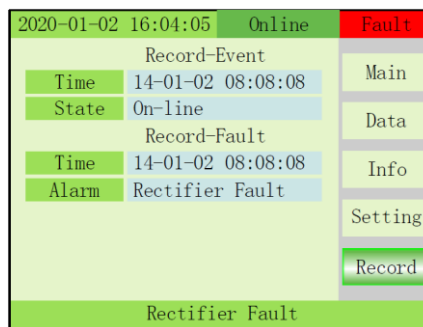

Fig. 3-21 **Record menu**
14) RECORD: Displays event records and fault records (Fig. 3-21).